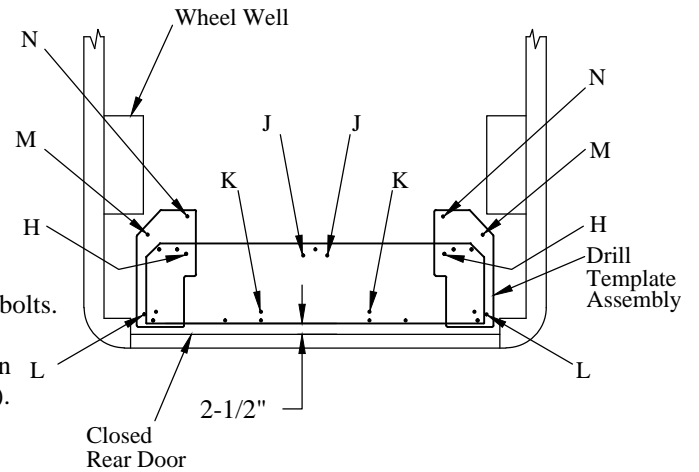

Figure 14: Bolt locations (top view).
3. Install two (2) 3/8" x 2" bolts with 3/8" flat washer and square washer at "K" locations in the base plate, up from the bottom of the van floor (Figure 14 and Figure 15).
5. Insert two (2) 3/8" x 2" bolts at "L" locations in the base plate, down through van floor (Figure 14 and Figure 15).
7. Place a 3/8" flat washer on remaining eight (8) 3/8" x 2" base plate bolts.
8. Insert eight (8) 3/8" x 2" bolts at "H", "J", "M", and "N" locations in the base plate, down through van floor (Figure 14 and Figure 16).